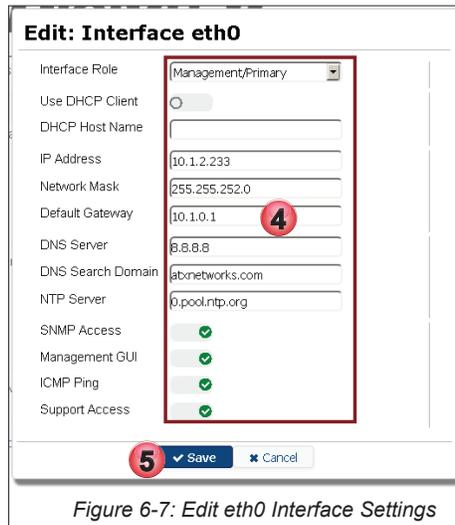

Figure 6-7: Edit eth0 Interface Settings
- Edit default values or fill in the Interface Settings form, Figure 6-7 per Table 6.2a and/or your requirements.
Table 6.2a: Ethernet Interface Form Values (See Figure 6-7)